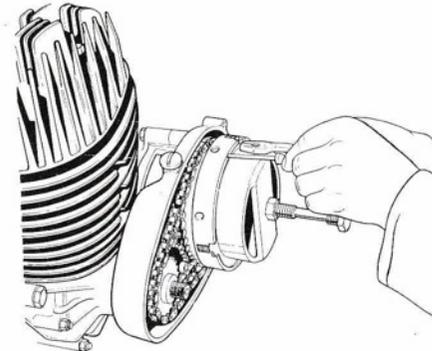

Fig. 30 Fitting the clutch large circlip with the diaphragm spring compressed.
- 13 Hold the diaphragm spring and tool in position in the housing and ensure the circlip groove is free of foreign matter. Insert the left hand ear of the circlip and grasping the other end (see Fig. 30) peel the circlip into position. Check the circlip for security and tap both ends to ensure proper seating. Release the tension on the diaphragm spring and remove the compressing tool.